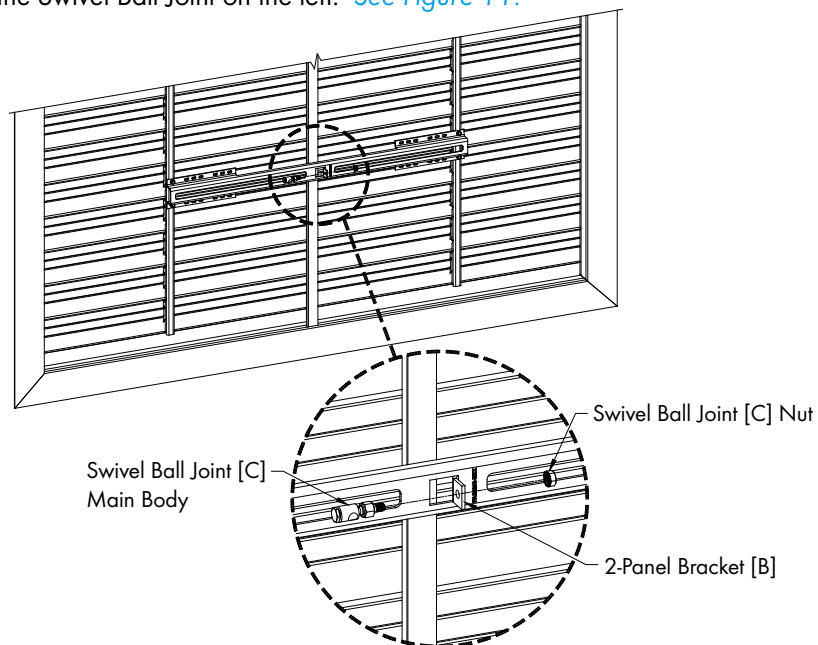

Figure 11
Install (1) Swivel Ball Joint [C] to the Connecting Bar in hole in the tab with the Nut on the right side of Tab and the main body of the Swivel Ball Joint on the left. *See Figure 11.*